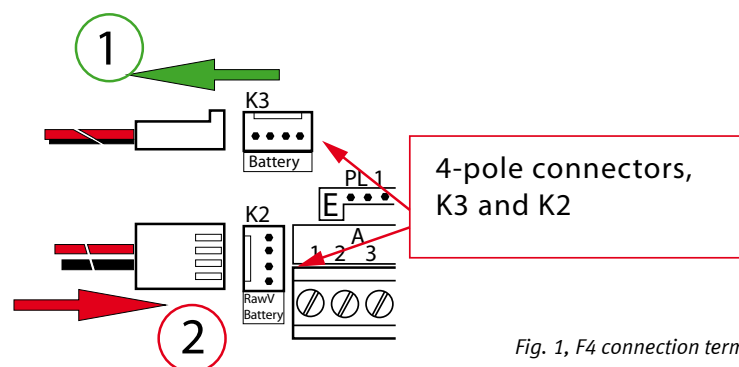

Fig. 1, F4 connection terminal
3. Cut the power by disconnecting the four-pole connectors K2 and K3, cf. Fig.1.